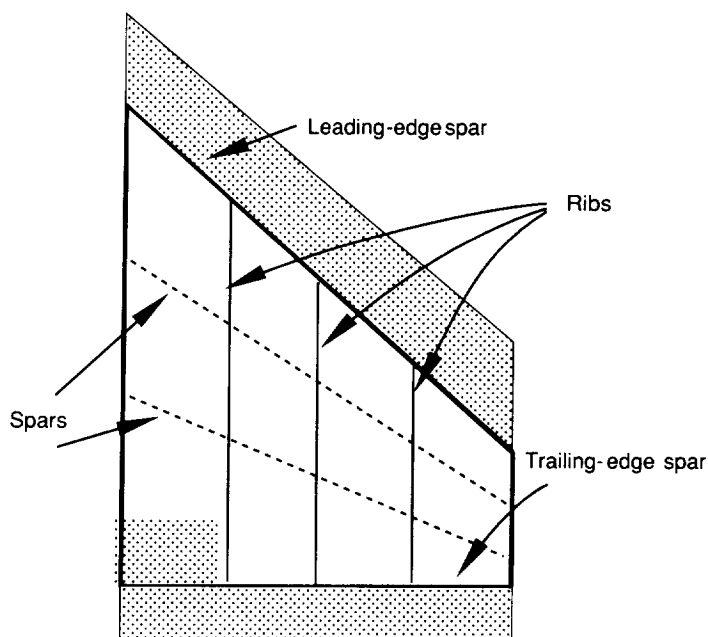

Figure 10.1. Wing planform and internal structure.
This chapter describes the options available in STRUCTURES Mode. This mode simplifies the construction of wing geometry that is suitable for finite-element model mesh generation. You use the mouse and menus to build a structural model by following a four-step process: (1) define the wing box, (2) create a rib pattern, (3) create a spar pattern, and (4) select Done. When you enter STRUCTURES Mode, you are prompted to select a wing from the Tree. You are restricted to single delta wings generated in PRIMITIVES Mode. The planform of your wing, which is similar to the one shown in figure 10.1, appears in the right View Window.
In figure 10.1, the planform is the outline of the X - Y projected area of the wing. The dashed lines that run spanwise across the planform are called spars, and the solid lines that run chordwise across the
For instance, the wing shown in figure 10.1 contains 12 elements. SMART gives you an error message if any of the elements have more than four sides. Five-sided elements are highlighted in red, and six-sided elements are not highlighted. Highlighted elements, which appear to be four-sided, actually have five sides, but one side is too small to be seen on the screen. You must edit the rib or spar patterns so that you have no five- or six-sided elements. Then select **Done** again. The wing is resurfaced so that the upper and lower patch boundaries coincide with the underlying internal structural rib and spar elements that are generated. The leading-edge and trailing-edge portions of the wing outside the wing box are not present in the completed structural model.